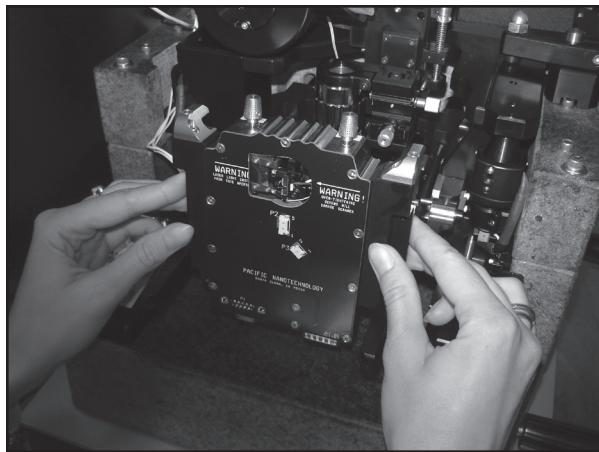

Figure 3.12: Rotate the Scanner Head
5. Carefully rotate the scanner head up about 90 degrees, as shown in Figure 3.12.